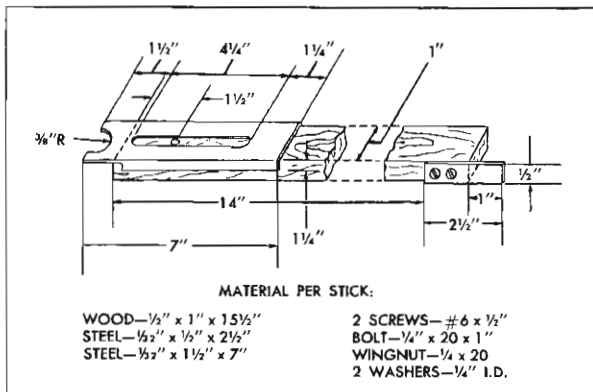

Fig. 21-36 Spacer Stick Dimensions
**NOTE:** Spacer stick may be made as shown in Fig. 21-36.